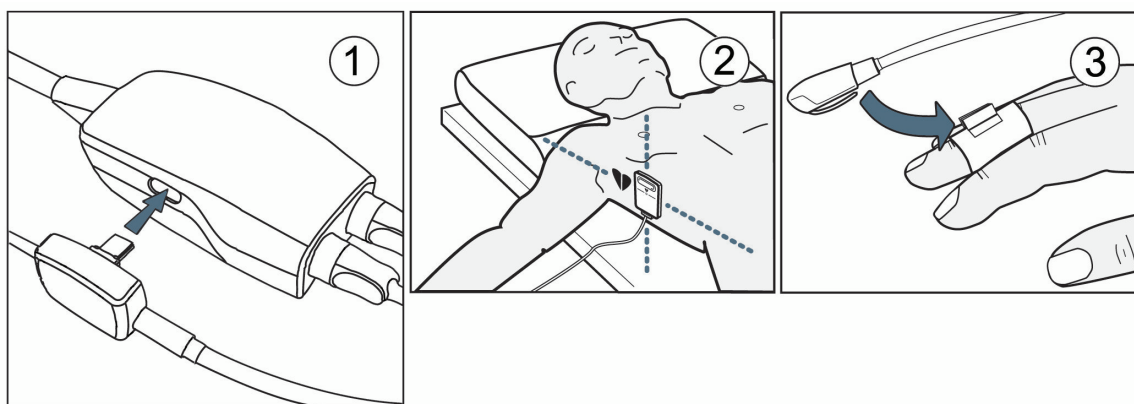

Figure 11-4: Heart reference sensor application
1. Connect the HRS to the pressure controller. See (1) in Figure 11-4 on page 209.
3. Apply the heart end of the HRS to the patient at phlebostatic axis level by using an HRS clip. See (2) in Figure 11-4 on page 209.
4. Attach the other end of the HRS to the finger cuff. See (3) in Figure 11-4 on page 209.